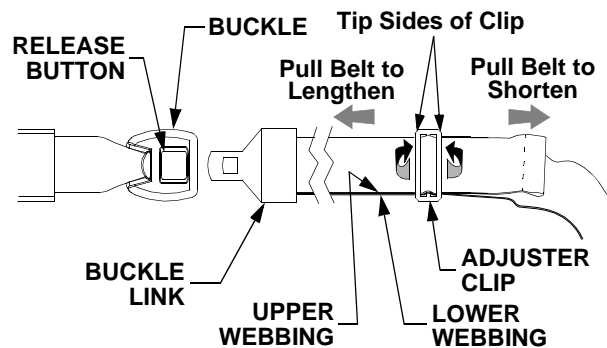

Figure 27
- To lengthen the belt, hold the ends of the adjuster clip and tip upward the side of the clip toward the buckle link. See Figure 27.
- While holding the clip, pull the upper webbing of the belt through the clip toward the buckle link. See Figure 27.